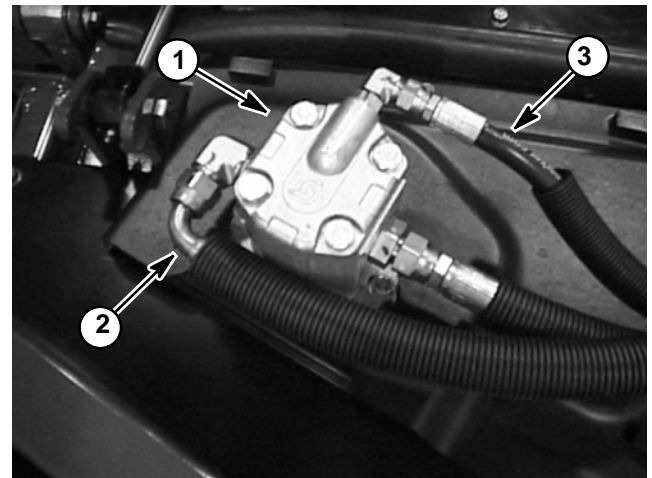

Figure 37
3. Disconnect return hose from the motor to be tested (Fig. 37). Install flow tester in series with the motor and the disconnected return hose. **Make sure the flow control valve on tester is fully open.**